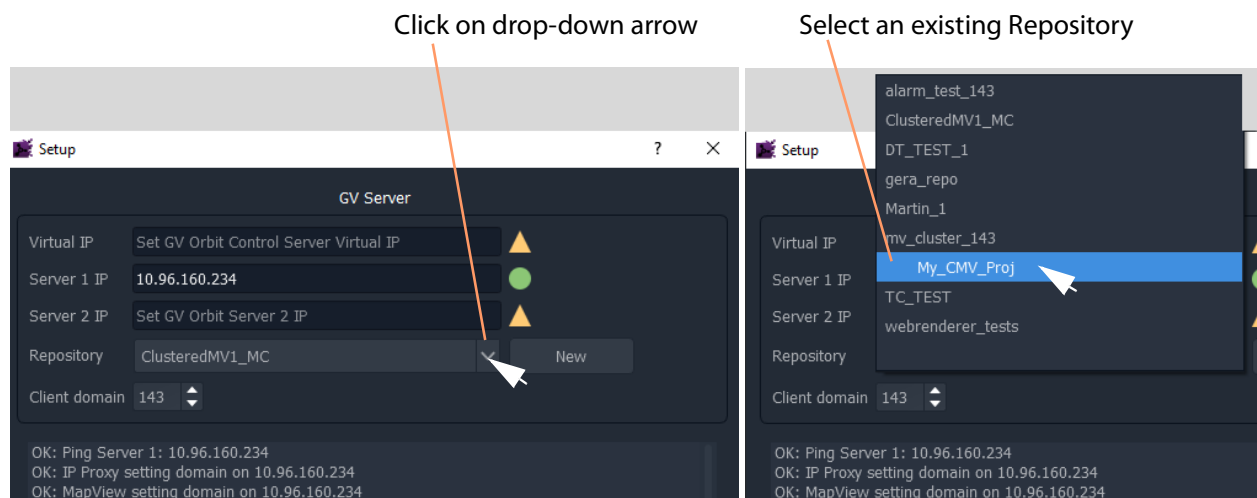

Fig. 13-10: Select Existing Repository
- 1 At the **Repository** drop-down box, select a Repository from the drop-down list. (See Figure 13-10.)